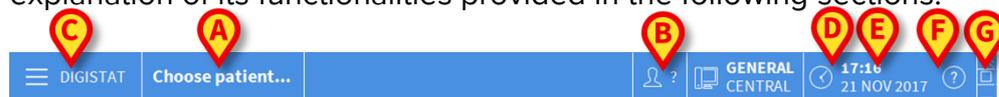
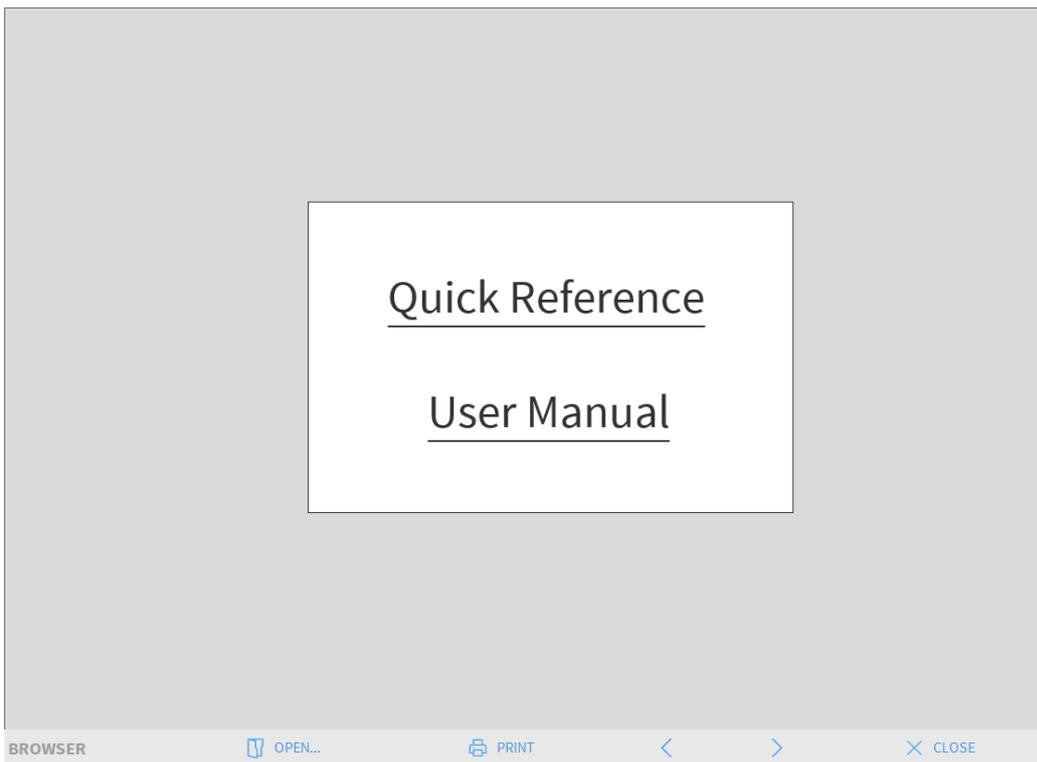

Fig 14
Fig 20
- The **Patient** button (Fig 14 **A**) will contain, after a patient has been selected, the patient’s name and, if the patient has been admitted, their bed number.
- The User button (Fig 14 **B**) shows the name of the user connected.
- Use the Menu button (Fig 14 **C**) to open the following window (Fig 15).
- The button indicated in Fig 14 **D** is used by the Product to signal that there are notifications for the user.
- Date - time indication (Fig 14 **E**).
- Use the Help button (Fig 14 **F**) to access the documentation available.
- The small buttons highlighted in Fig 14 **G** can be used to:
Click the **Help** button on Control Bar (Fig 14 F) to access the online documentation available. The screen shown in Fig 20, or similar, depending on the available documentation, will open.